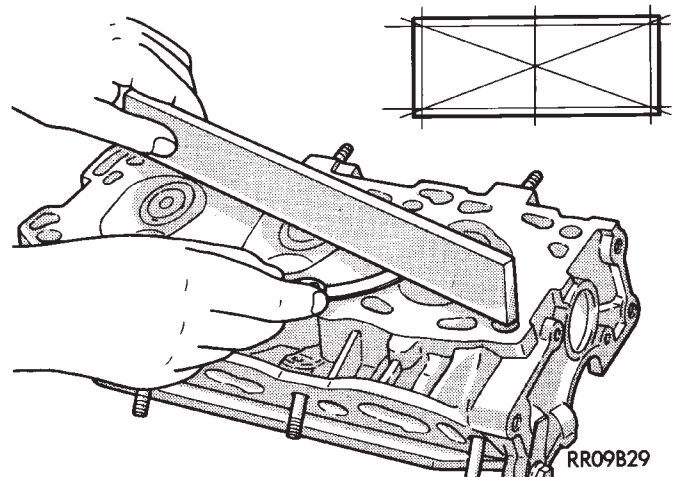

Fig. 15 Check Cylinder Head
- (2) Clean cylinder head and oil passages.
- (3) Check cylinder head for flatness (Fig. 15).
- (4) Cylinder head must be flat within;